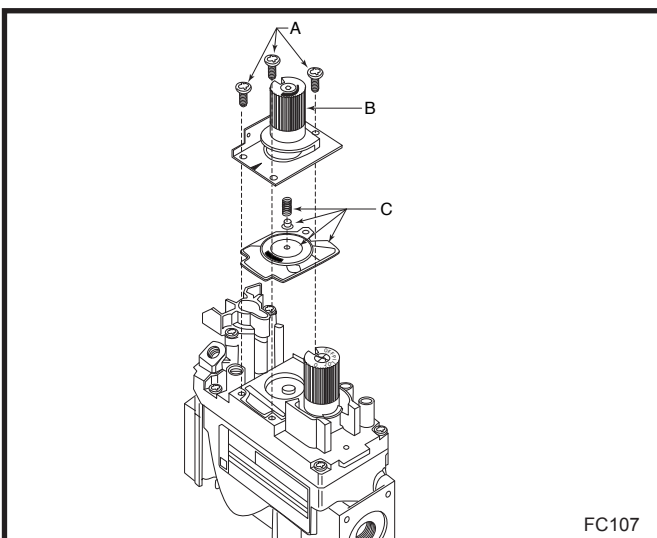

Fig. 59 Remove mounting screws, pressure regulator tower and spring and diaphragm assembly.
1. Using TORX T20 bit, remove and discard the three (3) pressure regulator mounting screws (A), pressure regulator tower (B) and the spring and diaphragm assembly (C). (Fig. 59)
2. Insure the rubber gasket (D) is properly positioned and install the new HI/LO pressure regulator assem-